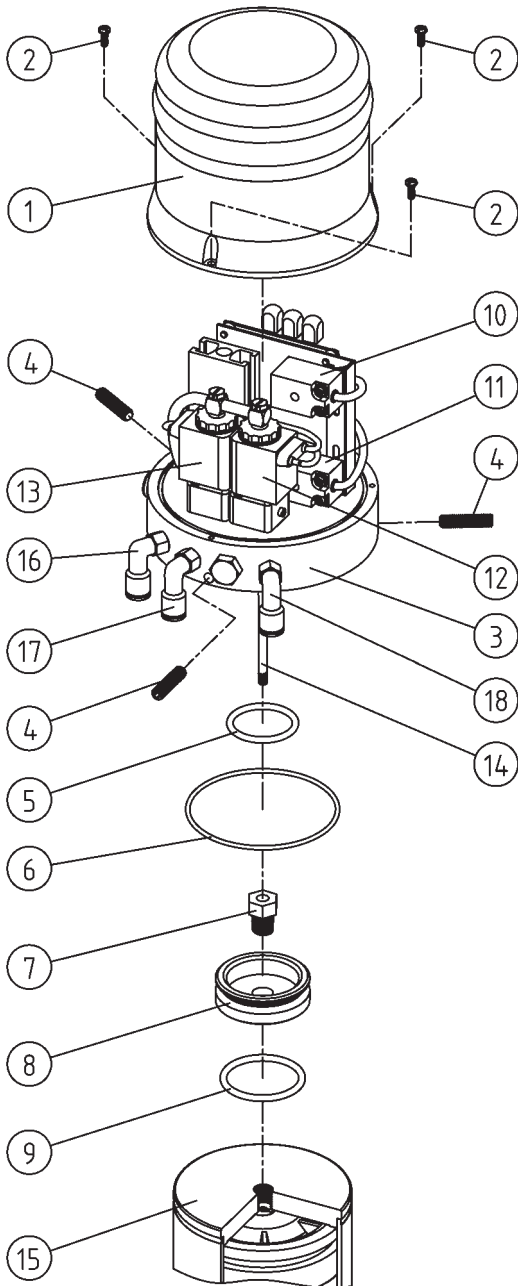

Fig 1
(1) When the assembly method is NC, the contact of the proximity switch patch wire is (Figure 1)